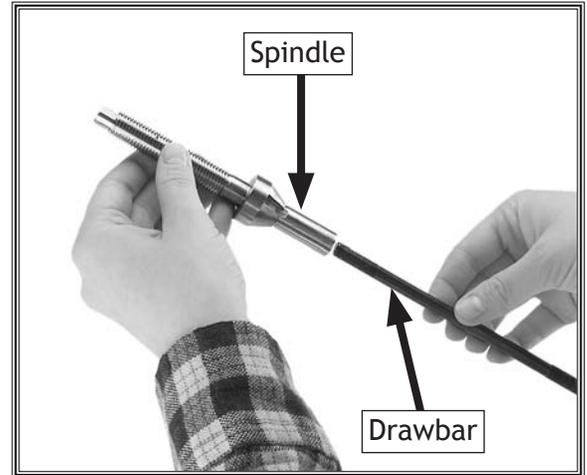

Figure 35. Installing the drawbar into the spindle.
2. Thread the drawbar into the bottom of the spindle until it is snug, as shown in **Figure 35**.